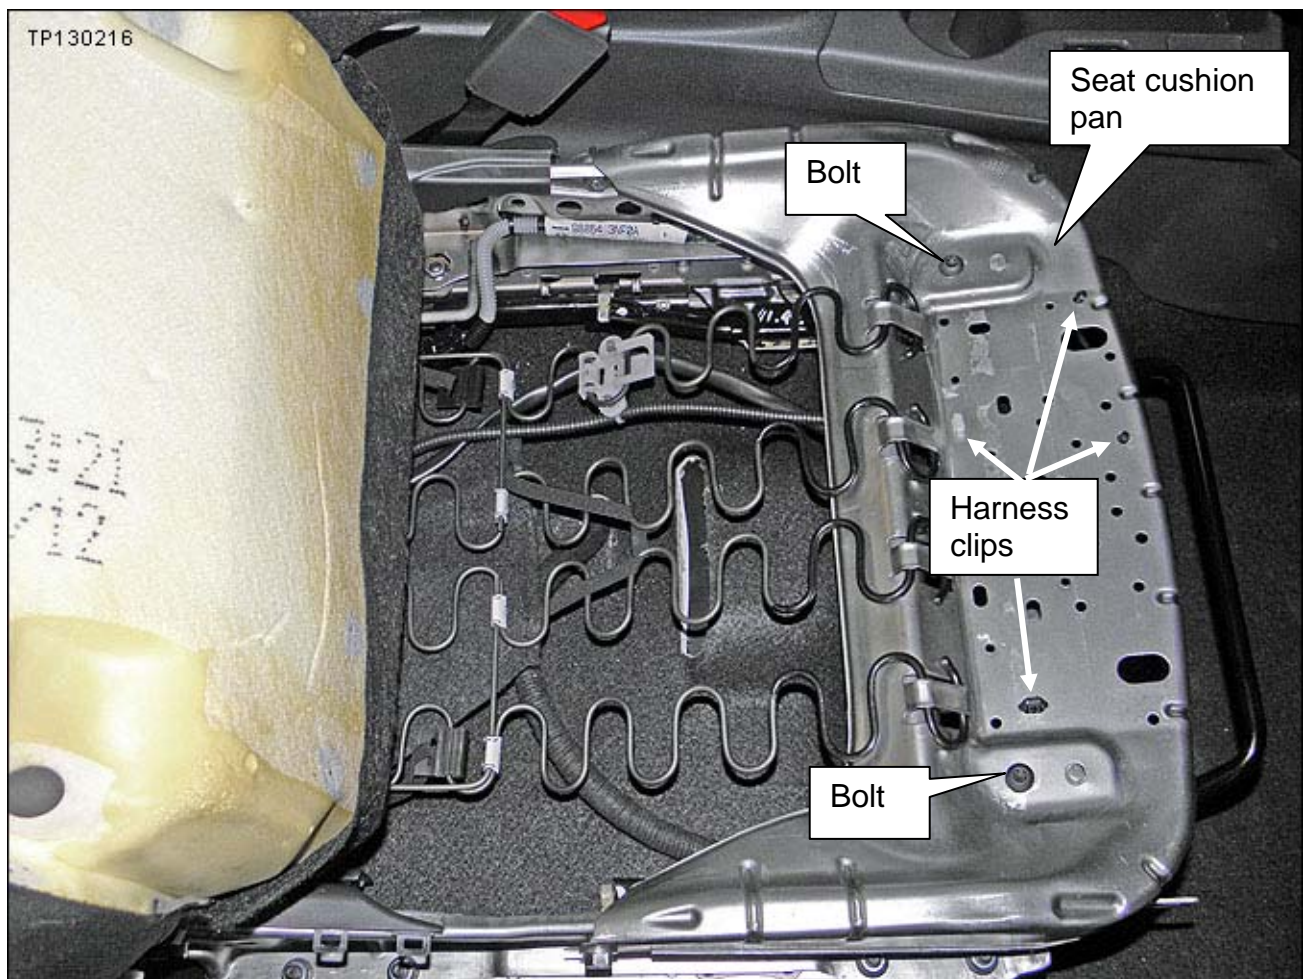

Figure 10
14. Release/disconnect the 4 harness mounting clips shown in Figure 10.
15. Remove the 2 Torx® head bolts shown in Figure 10.